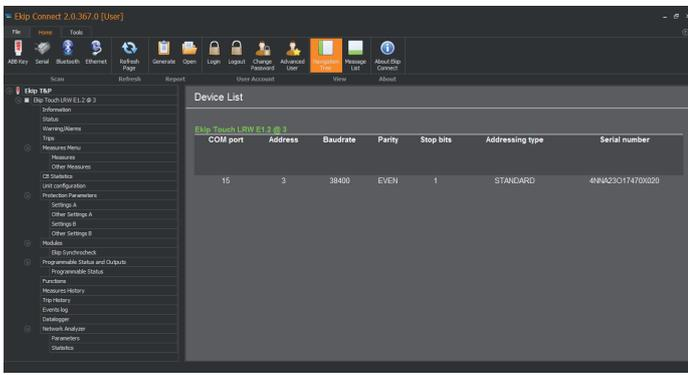

Figure 12 - Ekip Connect initial view
4. The initial window display will appear with a navigation view on the left side as shown in Figure 12.